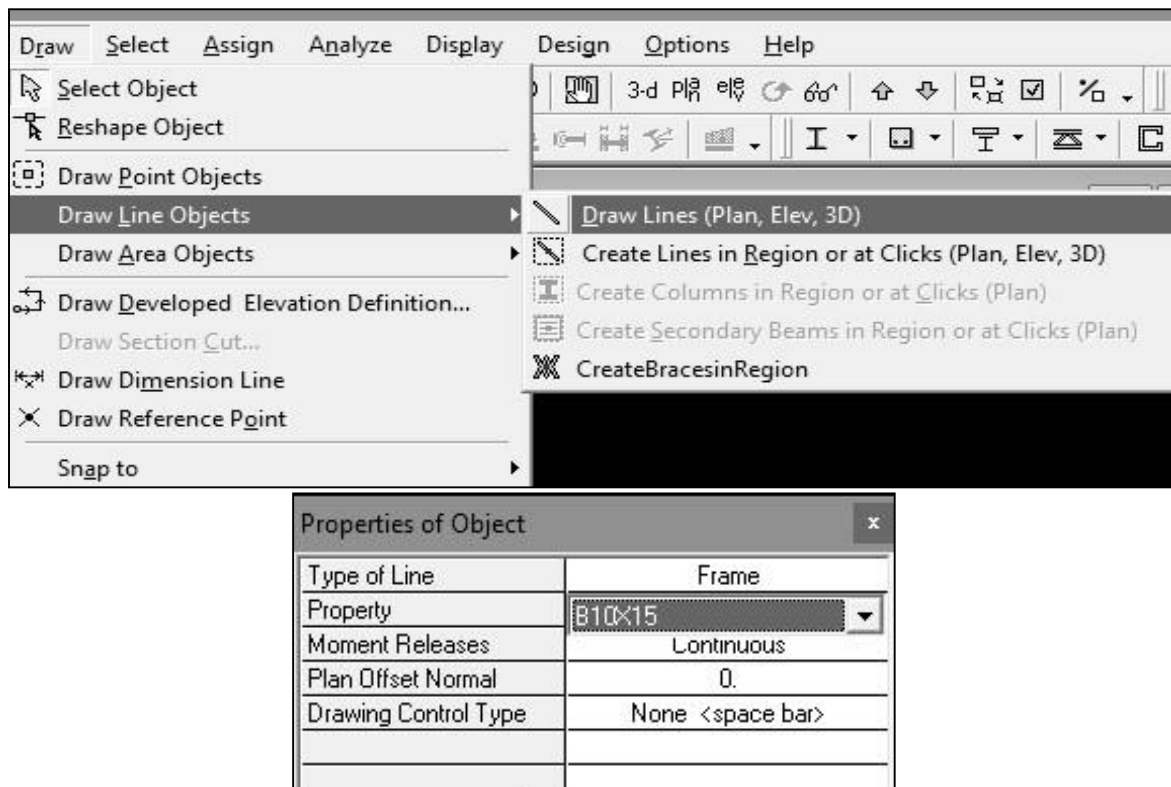

Fig: 3.6
3.1. **Beam Draw:** From menu bar click on Draw → Draw Line Objects → Click on Draw Lines (Plan, Elev, 3D) → Select Property = Beam or Pier → Then draw the line on Plan view by clicking one point to another point. After finishing press Esc from key board. (Fig: 3.6)